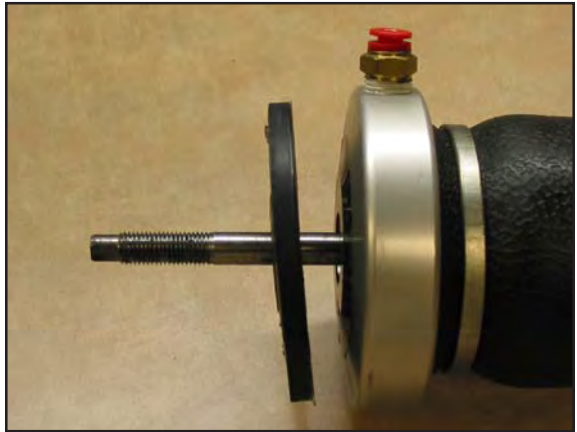

Figure 2
2. Place the rubber protector (D) onto the shaft of the new strut (A) (Figure 2). Next, place the stock mount and bushings onto the strut shaft. Fasten using the supplied nyloc nut (came on strut) (Figure 3).